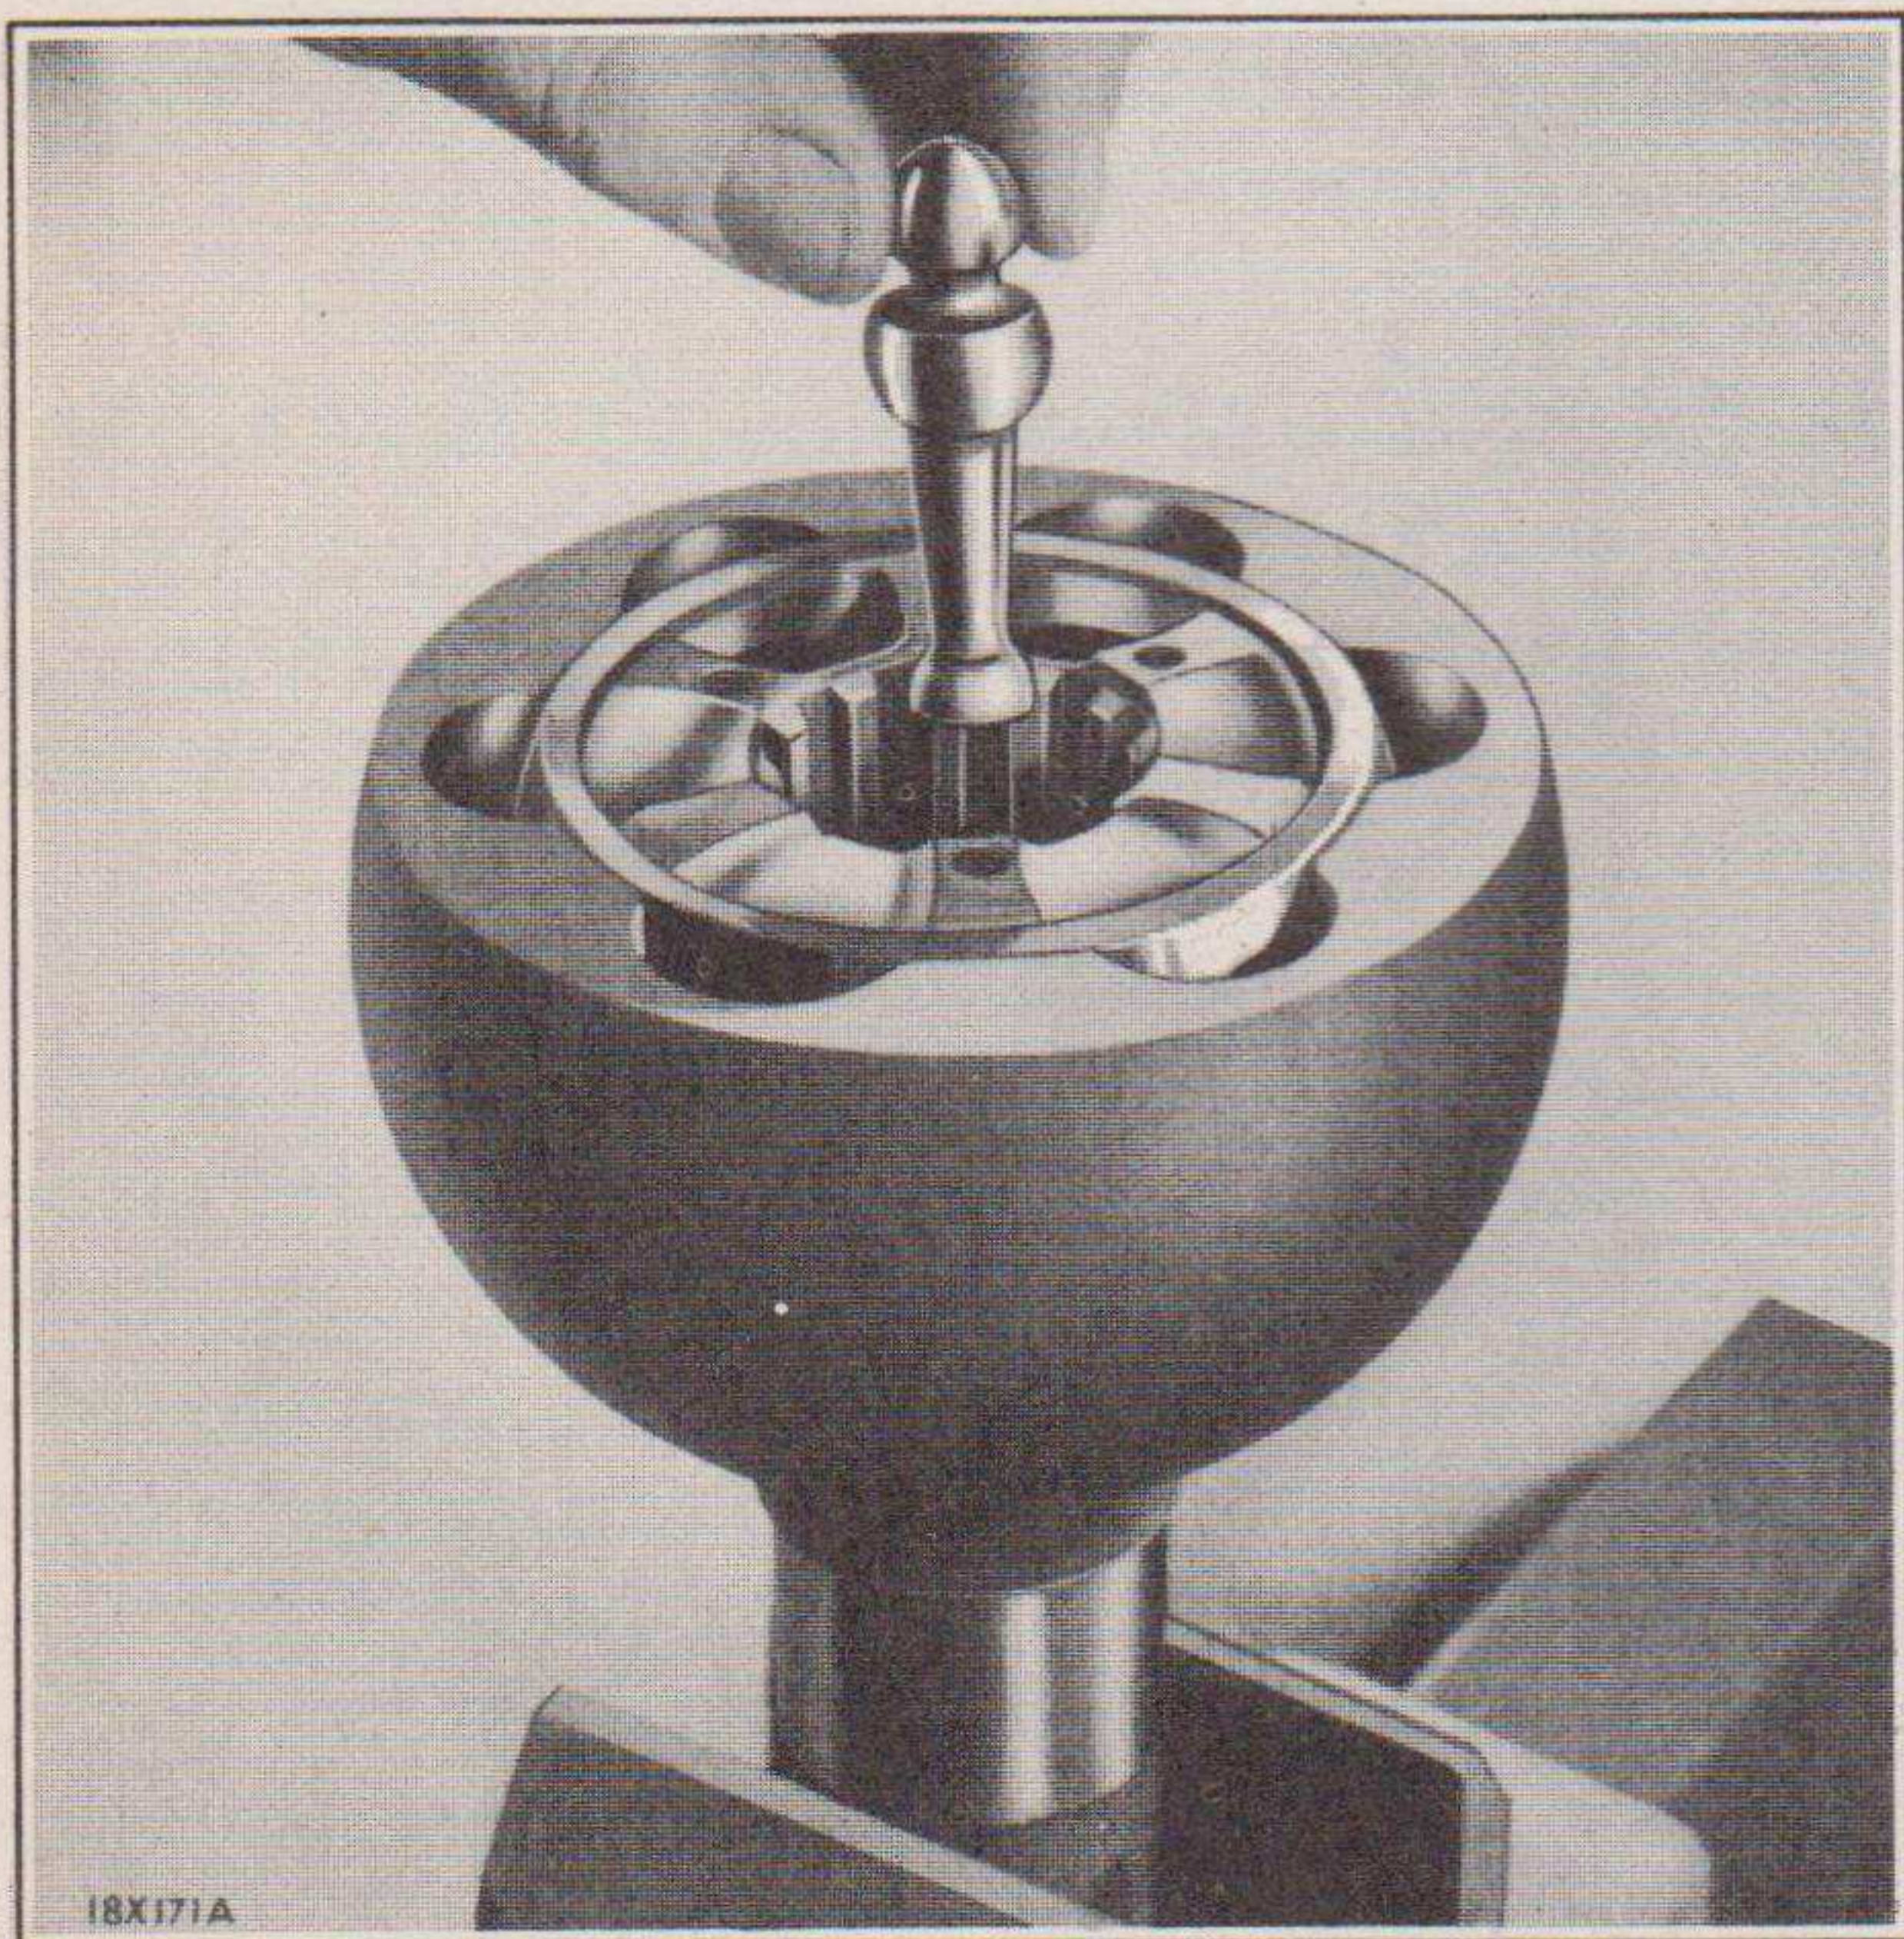

Fig. 22—Removing or Installing Universal Drive Pilot Pin (Rzeppa)
- (e) Remove the pilot pin (Fig. 22), which is located at the inner end of the outer shaft.
- (e) Rotate the race and cage unit to bring the bottom of the race at the top and install the pilot, after which rotate the assembly to its normal position with the pilot at the bottom and the screw holes in the race at the top as shown in Fig. 22.
- (h) Install the pilot pin (Fig. 22), making sure the flattened ball is inserted down.